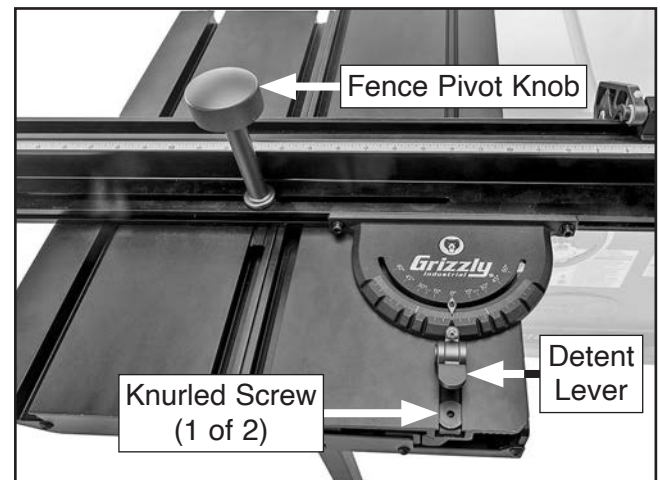

Figure 23. Components for moving fence lengthwise.
1. Loosen fence pivot knob (see **Figure 23**).
2. Loosen (2) knurled screws (see **Figure 23**) in miter bar by turning them clockwise.
3. Move fence to desired position along length of sliding table, then tighten (2) knurled screws (see **Figure 23**) in miter bar and tighten fence pivot knob to secure position.